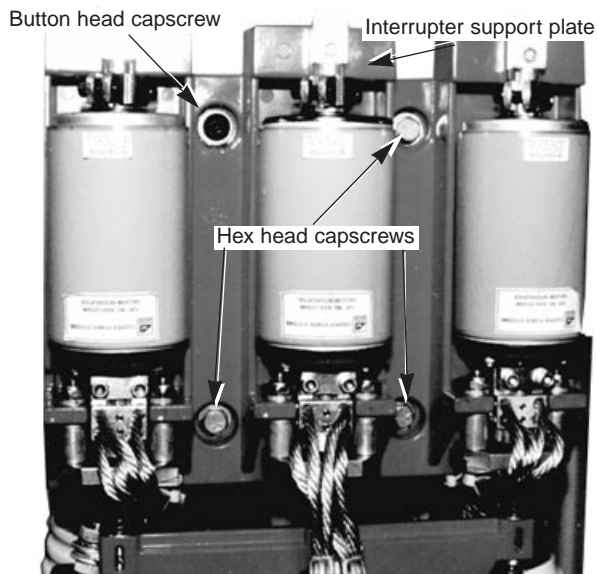

Figure 10.
1. One at a time replace the four hex head capscrews holding the interrupter support plate with the four button head capscrews (refer to Figure 10).